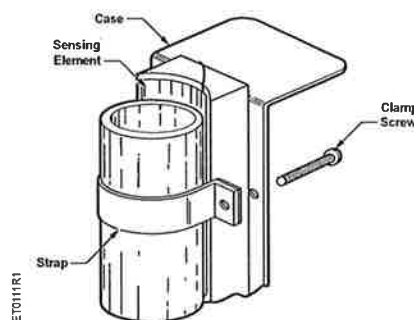

Figure 1. Skeleton View of Control Case, Temperature Sensing Element, and Mounting Strap.
- If the boiler manufacturer recommends a control location, follow such recommendations. If none is offered, the following information gives suggested locations. See Figure 1.